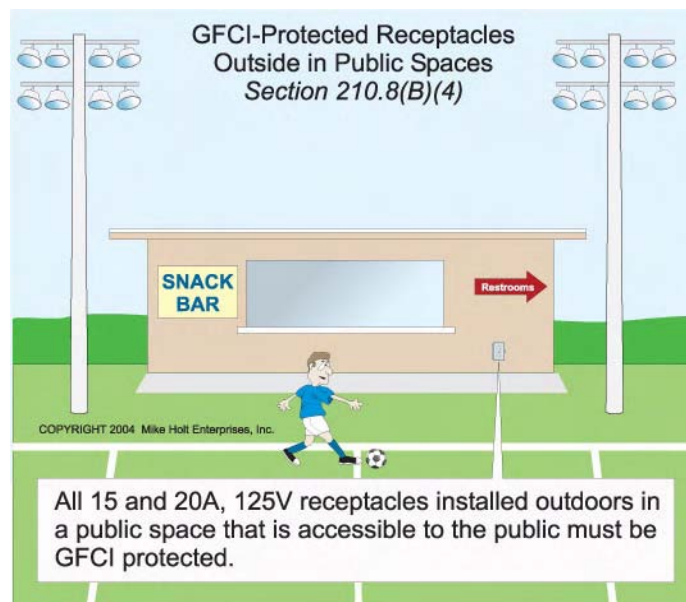

Figure 210-27
(4) Outdoor Public Spaces. All 15 and 20A, 125V receptacles installed outdoors in public spaces used by, or accessible to, the public must be GFCI protected. **Figure 210-27**